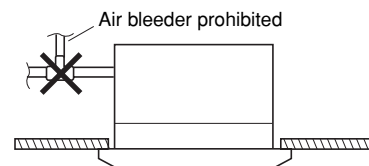

Fig. 3-8
- Do not install an air bleeder as this may cause water to spray from the drain pipe outlet. (Fig. 3-8)